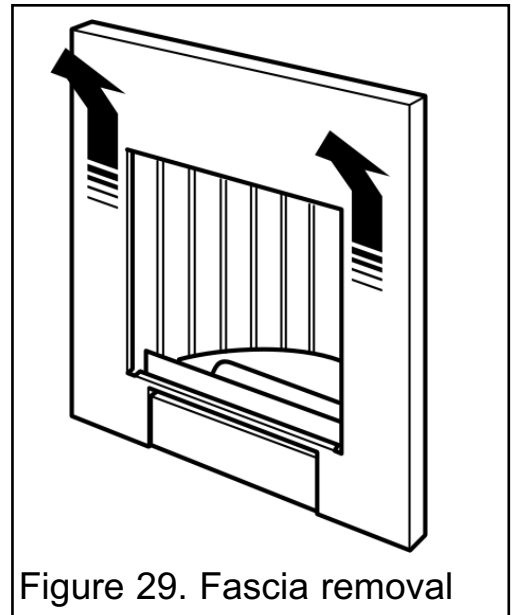

Figure 29. Fascia removal
3. The fascia is held in place by four retaining plates at the back of the fascia. These slot into four retaining brackets on the hotbox. To remove the fascia, hold the sides of the fascia and lift upward and forward. The fascia should lift clear of the hotbox. Do not lift too high before pulling clear as the bottom of the fascia will foul the control knob (See figure 29).